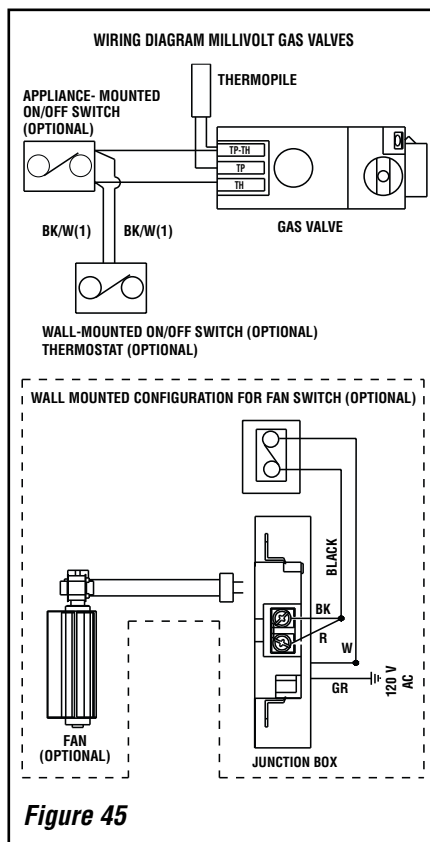

Figure 45
A. Millivolt Wiring (See Figure 45) –
a. Standard OFF/ON Switch - Install the OFF/ON burner control switch (rocker switch) as shown in **Figures 45, 46 and 49**.
b. Optional Control Switch (OFF/ON wall switch, wall thermostat or remote control receiver). Install snap bushing (provided in Electrical Outlet Kit) into control switch knockout in side panel (see **Figures 13, 14 and 48**). Wire the optional control switch within the millivolt control circuit (as shown in **Figure 45**) using the 15 feet of 2 conductor wire supplied (route wires through the snap bushing to the optional control switch). Mount the optional control switch or wall thermostat in a convenient location on a wall near the fireplace.